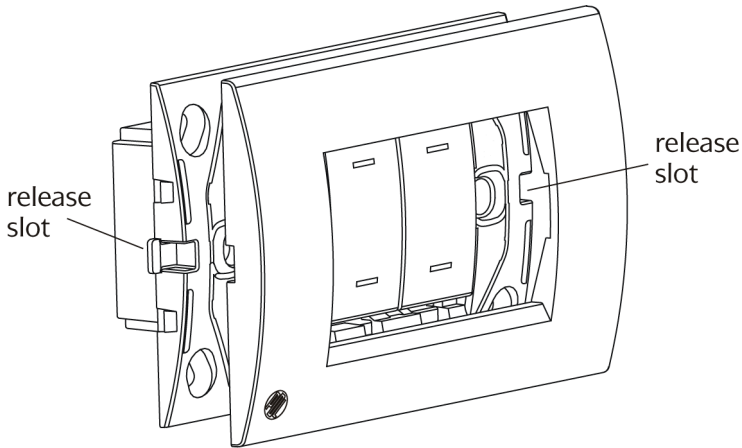

Figure 6. The release slots provide easy removal of the cover plate
- 2) With thumbs positioned over the release slots (Figure 6), press the cover plate onto the grid until it clips into place.
- 1) Insert the blade of a small flat head screwdriver into one of the release slots (Figure 6).